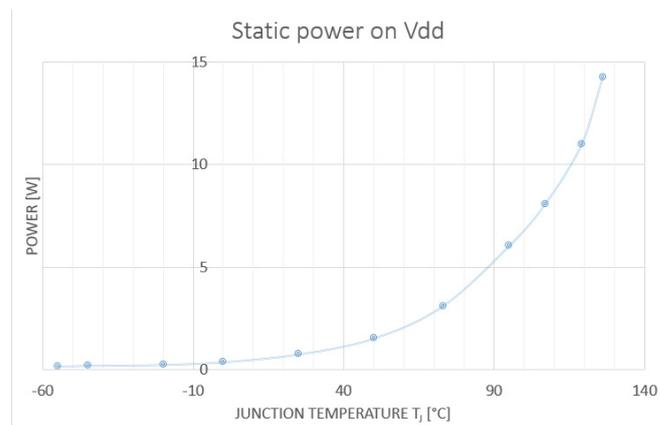

Figure 2: Typical evolution of static power consumption over junction temperature.
- Static power can be close to zero at cold, but can represent 40% or more of the total power budget at 125 °C (see Figure 2)
Figure 2 illustrates the typical relationship between junction temperature and static power consumption observed on a real processor; a higher junction temperature (T_j) leads to the non-linear power characteristic shown. In this example, a 45 °C temperature rise to 125 °C – the nominal maximum, yields a static power increase of ~3x, from ~4W to 14W. Conversely, a good way to reduce power consumption is by reducing junction temperature through enhanced cooling.
This optimization considers the viability of operating silicon beyond conventional thermal limits of commercial, standard products. Certainly, silicon is not physically limited to operate only up to 125 °C, several elevated temperature applications exist and are already served. The benefit of higher junction temperature operation is the extra thermal headroom on offer. But, as seen earlier, elevated temperatures have an implied penalty namely significantly raised power dissipation (see Figure 2). Where a higher junction temperature can pay off is in applications with an operating profile requiring short bursts of increased dynamic power, yet it is critical these bursts can be handled within the thermal capacity of the design.
- **Power consumption:** As shown in the Figure 2, power consumption increases exponentially with temperature, which means that operating in the